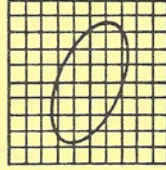

Figure 8
- h. Allow the tape to run to the 4 kHz section and observe if phase shift has occurred. (Refer to Figures 8 through 10.) If phase shift has occurred, adjust the play head azimuth screw to correct this phase shift in the exact reverse rotation to which it has occurred. (This means that if the pattern was increasing clockwise from 0 shift as frequency increased, the azimuth screw should be turned in such a way to cause the scope display to rotate CCW back to the "0" position.)